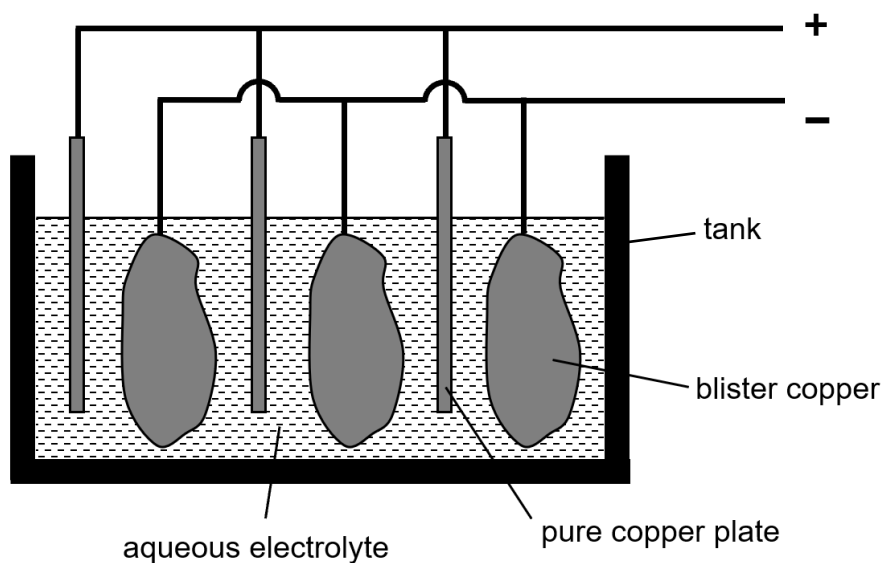

Fig. 4.1
- (b) Fig. 4.1 shows the cross-section of a tank used for the purification of copper metal.